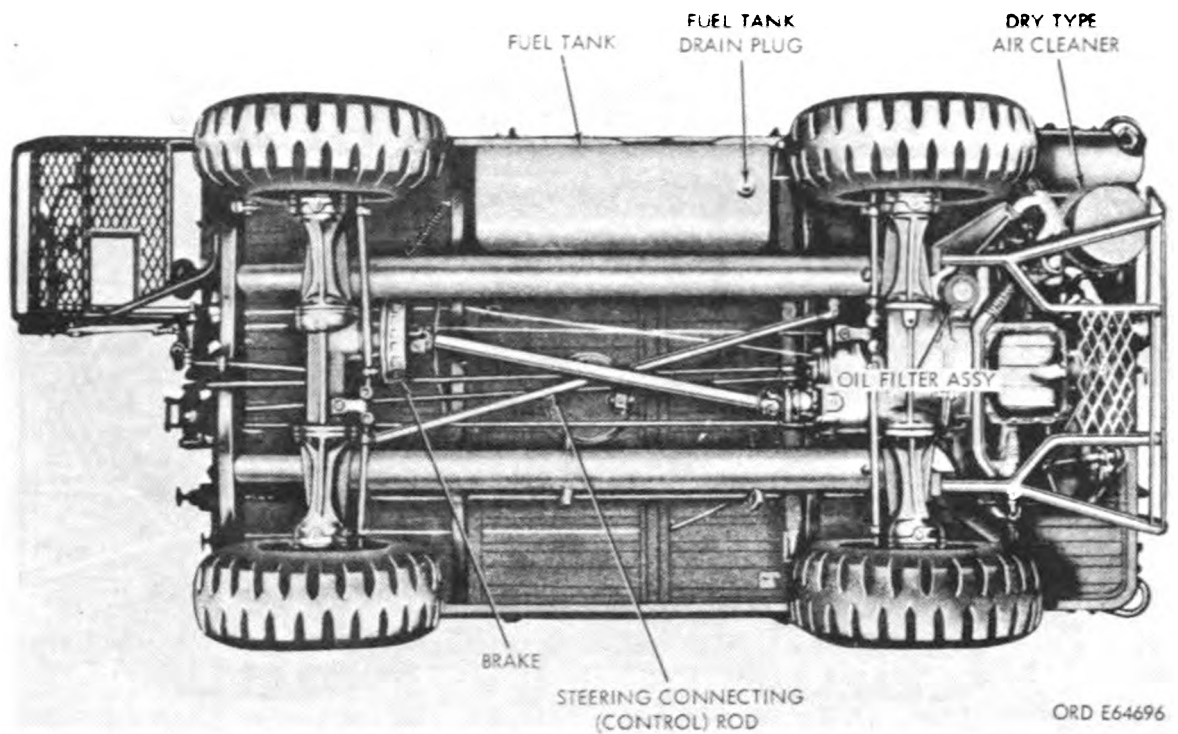

Figure 1-4. 1/2 ton, 4 x 4, platform utility truck—bottom view (M274A2 and M274A4 only).
plug (fig. 1-4) is provided for draining the tank. Two fuel lines (fig. 1-8) run from the fuel tank along the chassis, one going to the fuel filter, which is on the inlet side of the fuel pump; the other connects to the carburetor vapor return line located on top of the engine.
d. Air Cleaner. The air cleaner (fig. 1-4) is a dry type with a replaceable element, located under the vehicle platform at the left rear. Air entering the carburetor is filtered by the air cleaner.
- (2) The brake on all other vehicles is similar to the brake used on the M274A3 except that it is provided with two shoes which gives a larger braking area and improves braking ability.
g. Steering System. On the M274A2, M274A3, and M274A4 vehicles four-wheel steering can be adapted if desired. (See paragraph 2-15 and figures 1-4 and 1-5.) The steering column is adjustable to provide for operation of the vehicle while sitting in the vehicle and also while standing or crouching at the front of the vehicle. (See paragraphs 2-13 and 2-14.)